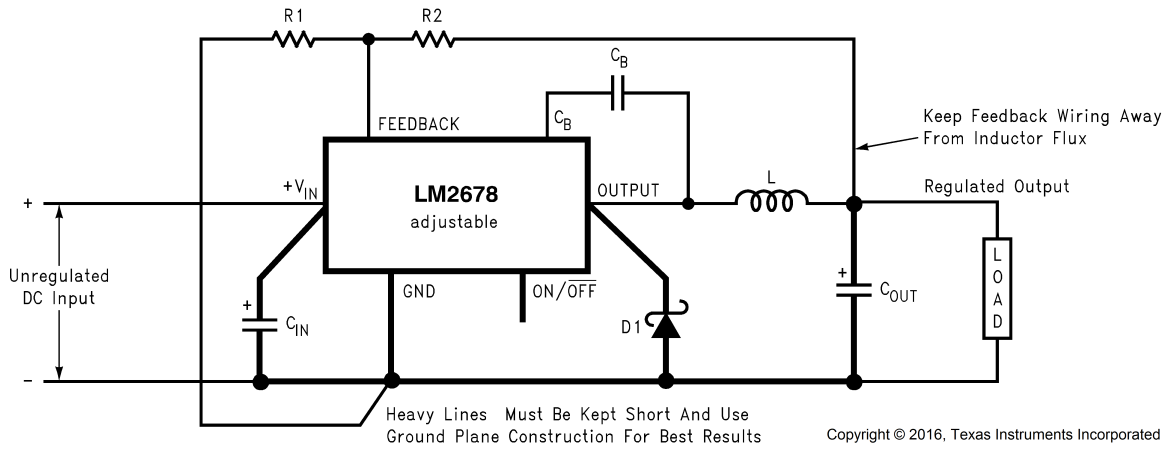

Figure 22. Basic Circuit for Adjustable Output Voltage Applications
Step 2: Select an LM2678S-ADJ. To set the output voltage to 14.9-V two resistors need to be chosen (R1 and R2 in Figure 22). For the adjustable device the output voltage is set by Equation 1.